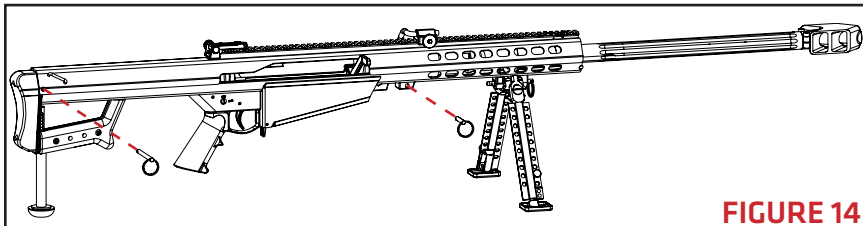

FIGURE 14
- Place the midlock pin (shorter pin) through the midlock hole in front of the magazine well on bottom of the rifle until it is fully seated, locking the upper and lower receivers together. Insert the rear lock pin through the rear lock hole of the upper receiver to complete the mating of the receivers (**FIGURE 14**).